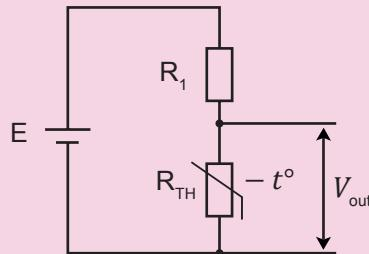

Figure 8.14
1. An NTC thermistor is connected as shown in Figure 8.14. Explain what happens to the output voltage when the temperature of the surroundings increases.